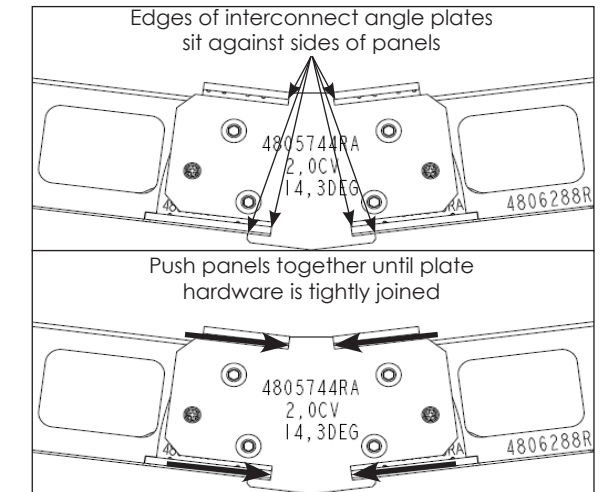

Figure 9: Install Interconnect Plates
5. Tighten the M6-1x12 mm screws on top of each panel. Torque the screws to 55 in-lbs. Refer to **Figure 9**.